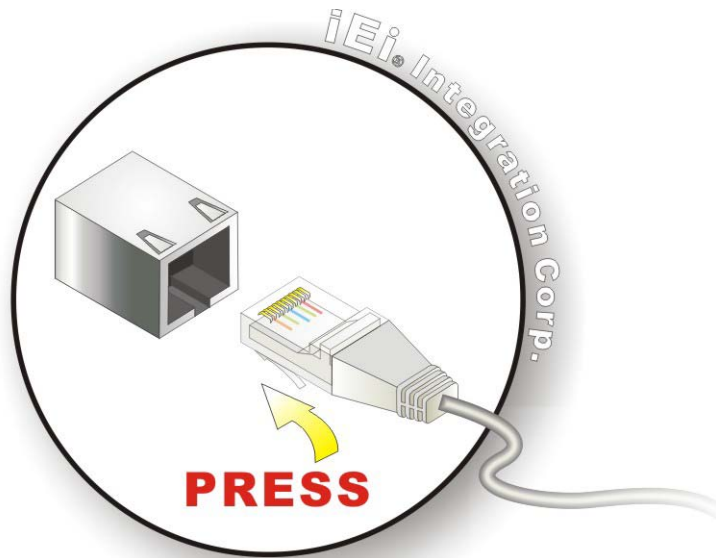

Figure 3-15: LAN Connection
Step 2: **Align the connectors.** Align the RJ-45 connector on the LAN cable with one of the RJ-45 connectors on the TANK-6000-C226. See **Figure 3-15**.